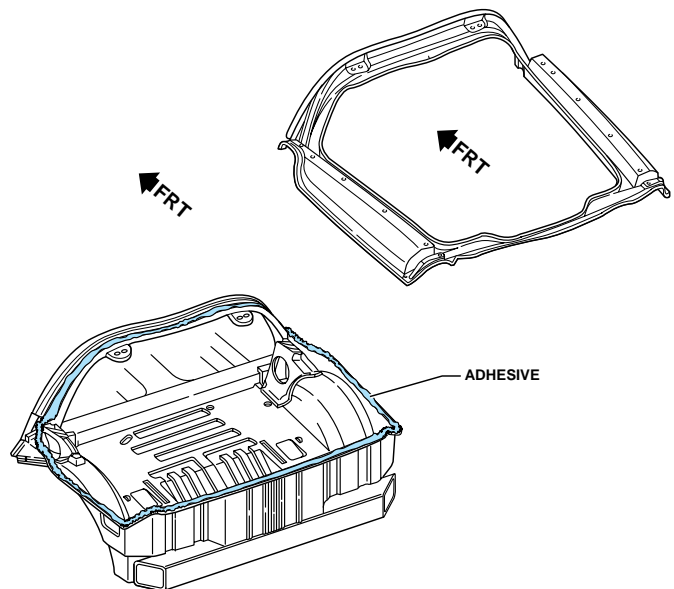

Fig. 3.67 — Apply a Consistent Bead of Adhesive to the Entire Perimeter to Form a Leak-Proof Seal
- 7 Apply a consistent bead of adhesive to the entire perimeter of the rear compartment panel mating flange and the tops of speaker housings. Apply enough adhesive for proper wet-out (Fig. 3.67).